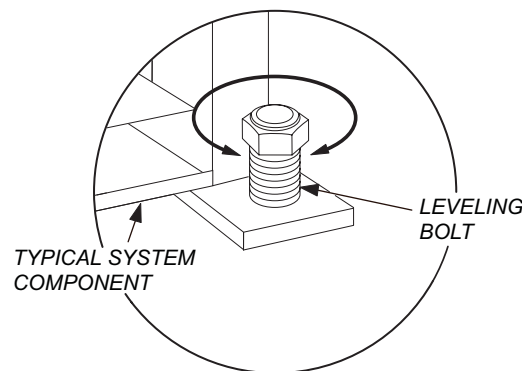

Figure 10 Typical Levelling Bolt
1. If required, level a system component by adjusting levelling bolts (see Figure 10).